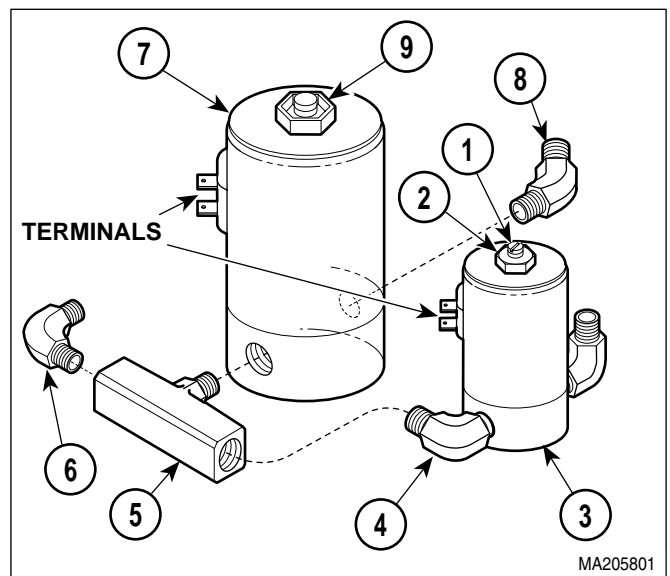

Figure 4-13. Fill Solenoid Fittings Removal / Installation
- (7) Remove manifold assembly (12) and spacer (12A) from base (13).
- (8) Hold screw (1, Figure 4-13) and loosen nut (2). Turn terminals out of the way.
- (9) Remove assembled vent solenoid (3) and elbow (4) from tee (5).
- (10) Remove elbow (6) and tee (5) from fill solenoid (7).
- (11) Remove elbow (8) from fill solenoid (7).
- (1) Coat threads of tee (5, Figure 4-13) and elbows (6 and 8) with teflon tape.
- (2) Install elbow (8) on fill solenoid (7).
- (3) Install elbow (6) and tee (5) on fill solenoid (7).
- (4) Loosen nut (9). Turn terminals of fill solenoid (7) so wires will connect easily to fill solenoid. Tighten nut (9).
- (5) Coat threads of elbow (4) with teflon tape.